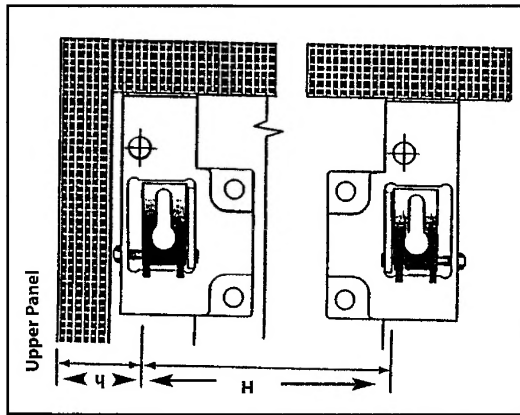

Fig. 4
5. Measure the height of 'h' of the upper hinge and mark it on the rear of the panel door as indicated in Figs. 4 & 5
6. After checking that both the hinge adjusters are in the lowest position, measure the height of 'H' between the upper and lower hinge adjuster and mark it on the rear of the panel door (see Figs. 4 & 5)